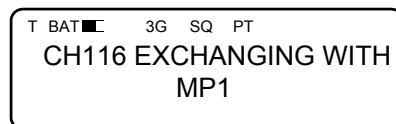

Figure 3-16. LQA Exchange
- a. Place the AN/PRC-150(C) in 3G radio mode. Refer to Paragraph 3.19.2.
- f. Use the ▲▼ keys to select the address of the station to exchange scores with, and then press [ENT]. An exchange will be performed with the selected station on each channel in the current CHANNEL PLAN. Both stations update their scores for each other on all channels. See Figure 3-16.